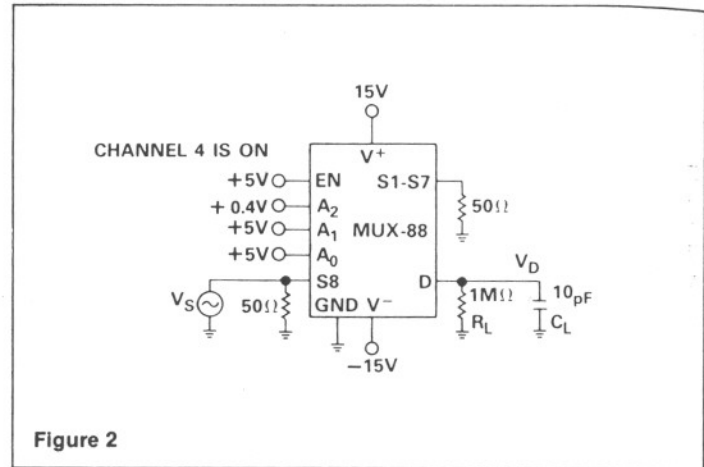

Figure 2
- Crosstalk is measured by driving channel 8 with channel 4 ON. $R_L = 1\text{M}\Omega, C_L = 10\text{pF}, V_S = 5\text{V RMS}, f = 20\text{kHz}$. (See Figure 2)